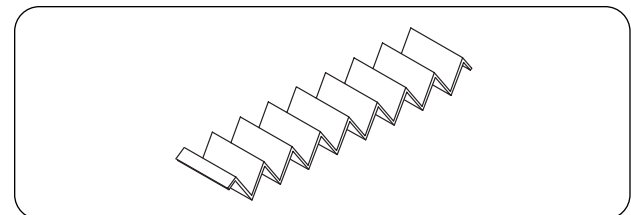

Figure 19. Eight Pleat Hardcoated Fry Bag Ribbon
An eight (8) pleated hardcoated fry bag tray can be added to hold french fry bags. (See Figure 19.)